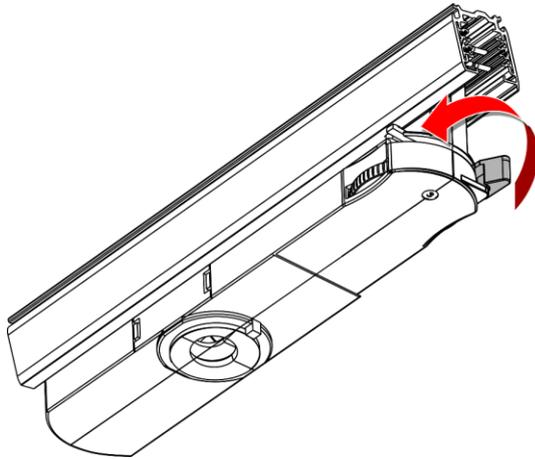

Fig. 11
- 04) Turn the **track lock (02)** counterclockwise to unlock the device (see Fig. 11).